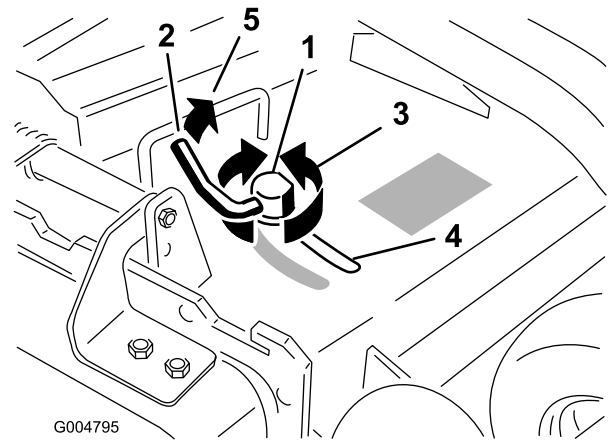

Figure 19
3. To adjust the cam lock, swing the lever up to loosen the cam lock (Figure 19).
5. Swing the lever back over to tighten the baffle and cam lock (Figure 19).